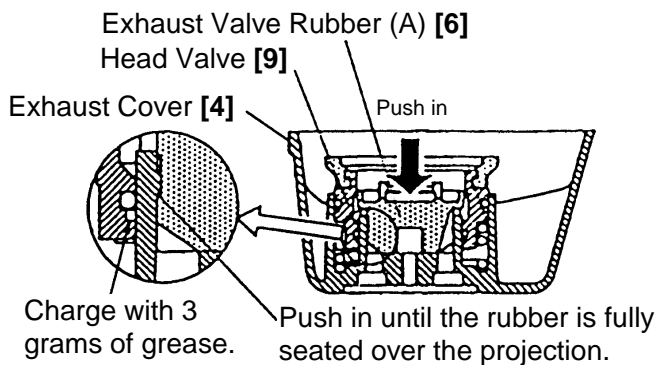

Fig. 11
- As shown in Fig. 11, firmly push in the Exhaust Valve Rubber (A) [6] until it is fully seated over the projection of the Exhaust Cover [4].